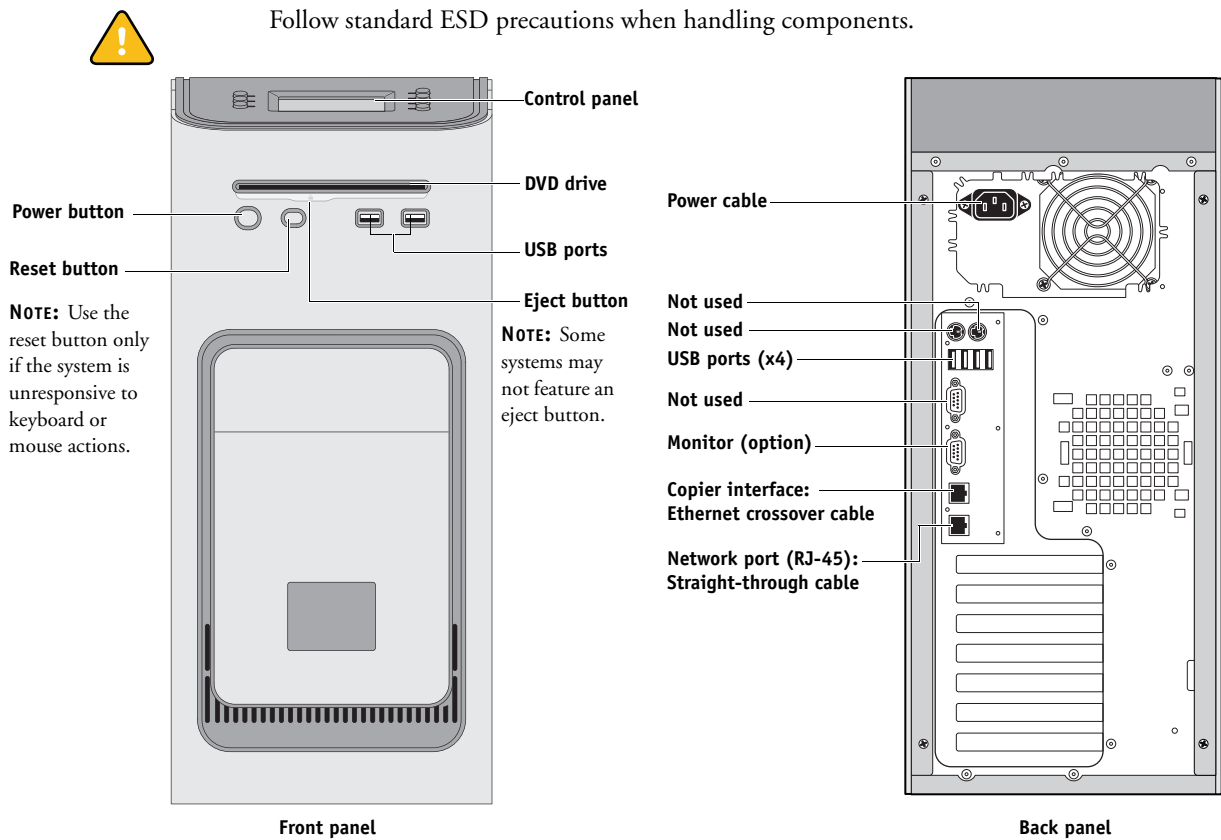

FIGURE 5: E-8100 connections
1. Connect the female end of the E-8100 power cable to the power connector on the back of the E-8100 (see Figure 5 on page 28).
NOTE: The copier interface cable included with the E-8100 is a 16.4 ft. Ethernet *crossover* cable that connects to the **upper** RJ-45 port on the E-8100 back panel. The network cable at the customer site is a *straight-through* Ethernet cable that connects to the **lower** RJ-45 port on the E-8100 back panel. The cables look similar but are not interchangeable. Make sure that you connect the cables to the correct ports (see Figure 5 on page 28).
2. Connect the straight-through network cable to the lower RJ-45 network port on the back of the E-8100 (see Figure 5 on page 28).
2. **Power on the E-8100 using the power button on the front panel (see Figure 5 on page 28).**